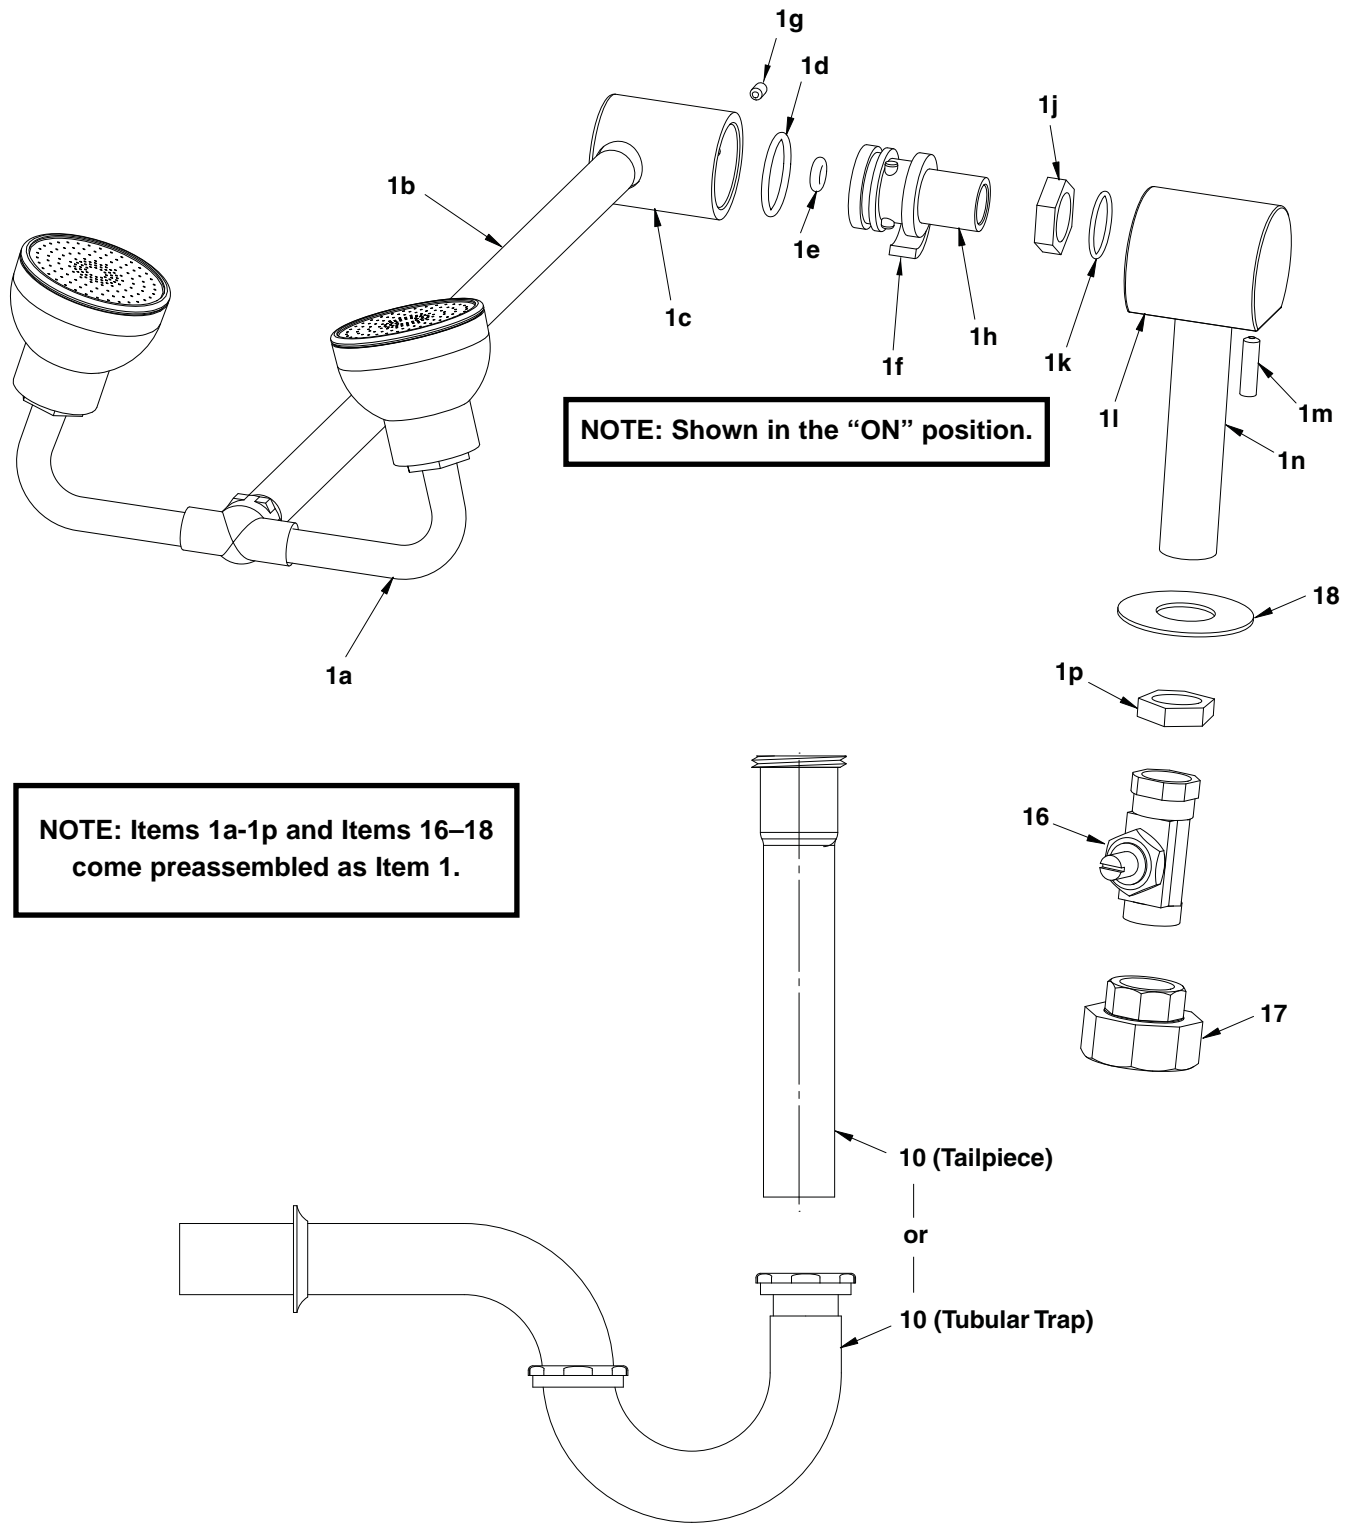

Figure 3a
4. With the cabinet's bottom door open, connect the supply line using the coupling nut (refer to Figure 3a on page 4).